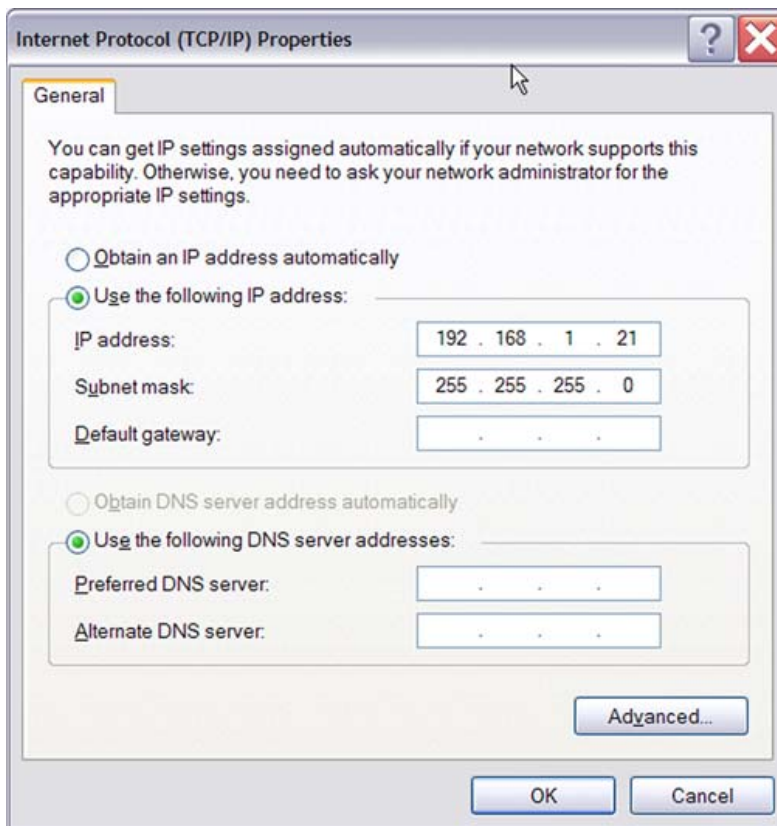

Figure 9. The Internet Protocol Properties Dialog
4. In the panel labeled This connection uses the following items:, select the Internet Protocol (TCP/IP) item to highlight it, and click the Properties button. The Internet Protocol (TCP/IP) Properties dialog box appears (Figure 9).
5. Enter values for the IP address and subnet mask to match those shown in Figure 9. Leave any remaining fields blank. In this example, an IP address of 192.168.1.21 and a subnet mask of 255.255.255.0 are being assigned to the PC. These values place the PC on the same network as the Z8 GP ICE unit.